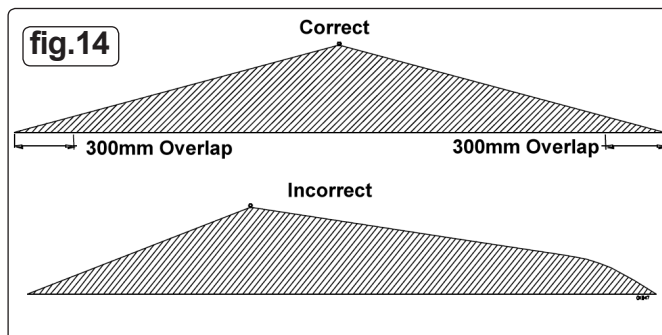

fig.14
- 8.3.3 To ensure a uniform spray pattern, overlap each spray 300mm (fig.14).